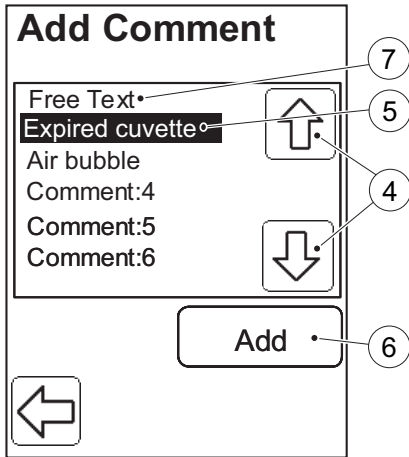

FIGURE 4-20
FIGURE 4-20 will be displayed.
- e) If more comments are to be added, press the Add button (9) again and repeat the procedure according to *FIGURE 4-20*.
- f) If comments are to be deleted, press the Delete button (10).